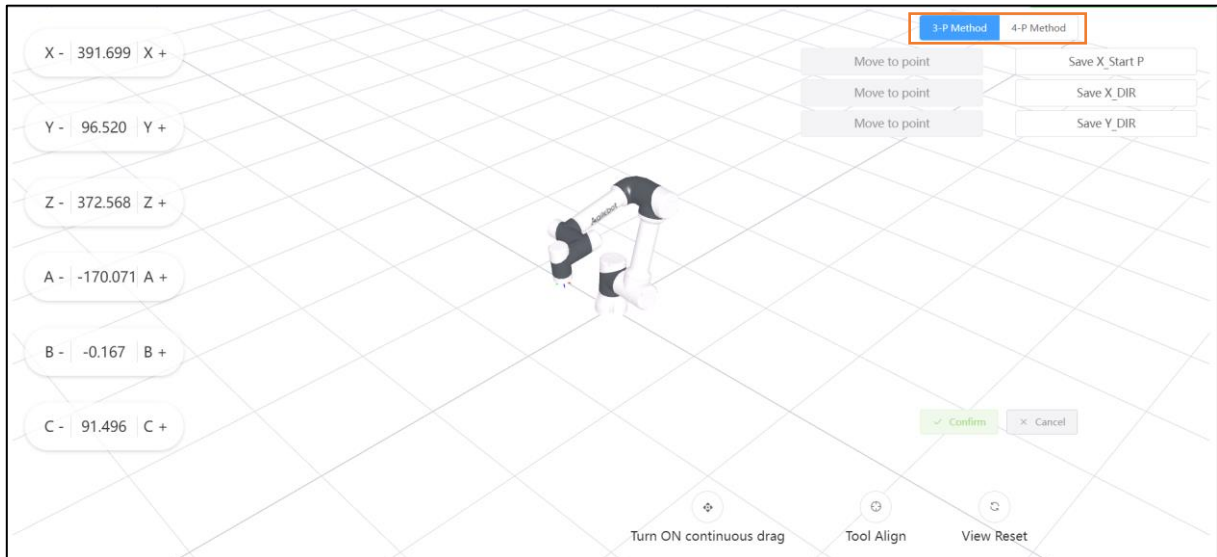

Fig. 2.22 User Coordinate System Setting Window
- 1) Click "Menu Button" → "Coordinate System" → "User Coordinate System" to enter the interface as shown in Fig. 2.22, and Choose 3p/4p as shown in the figure below.